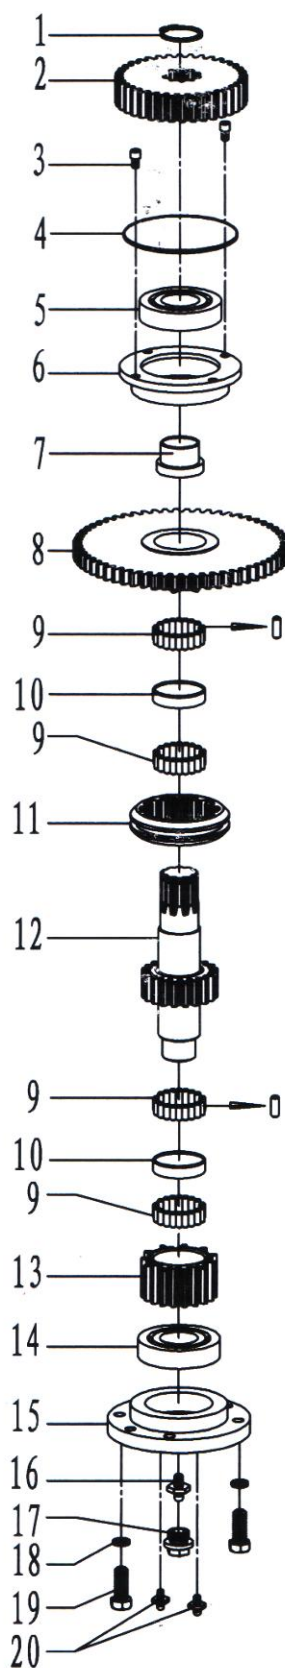
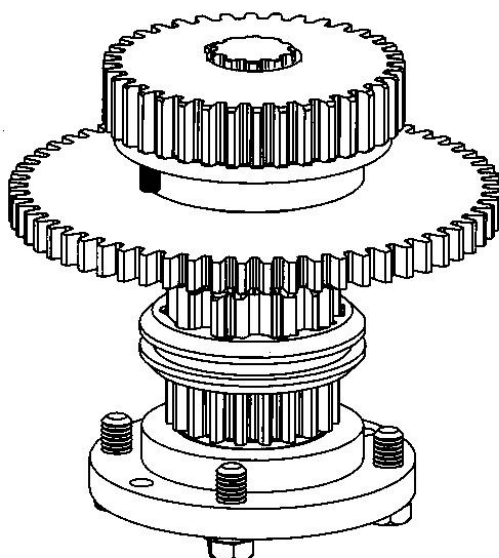

Fig. 12
Fig. 13
7.1.6 Power input shaft assembly(Fig.12, Fig.13, Table.8)